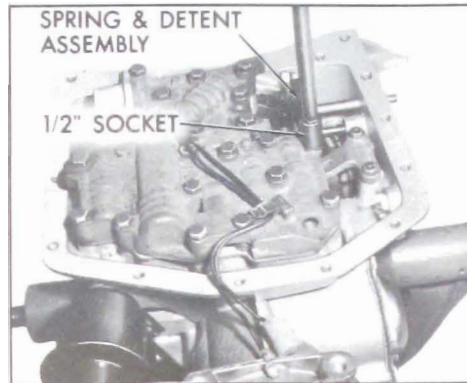

Figure 5-113
6. Remove spring detent assembly bolt with a 1/2" socket. Remove spring detent assembly from valve body. See Figure 5-113.